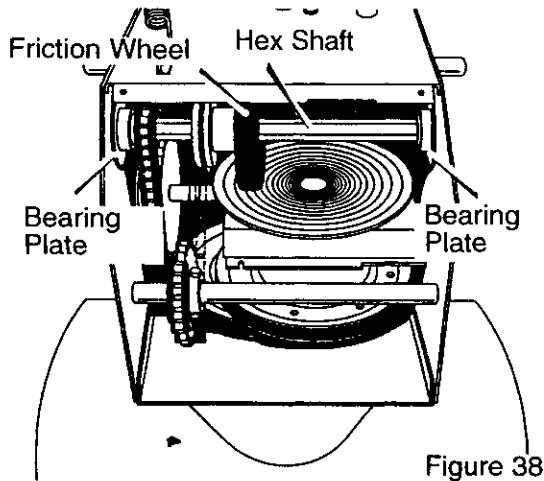

Figure 38
8. Remove the four bolts that hold the **bearing plates** on each side of the **hex shaft**. See Figure 38.
12. Install the **bearing plate** onto the right side. Make sure the **hex shaft** is engaged with both **bearing plates** and that the washers and retaining ring are installed in the original position. See Figure 38.